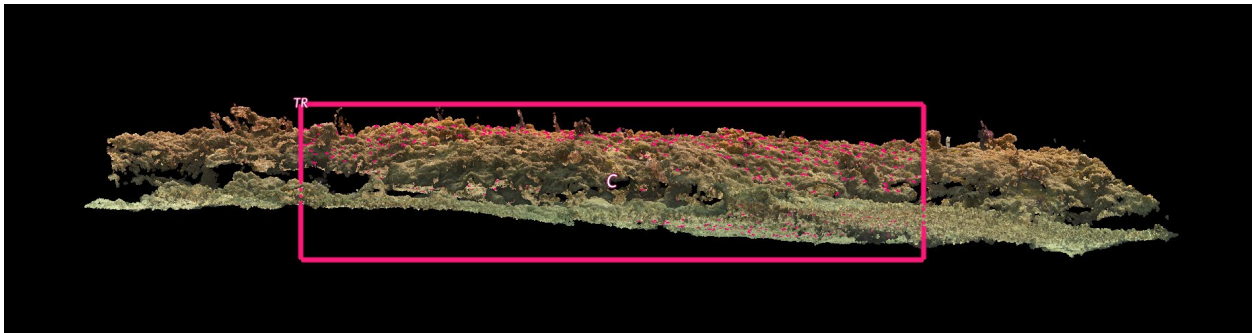

Figure 81. Example of checking the side view of the model to ensure the box placement encompasses depth of model.
5. Ensure the quad encompasses the entire depth of the model (Figure 81).